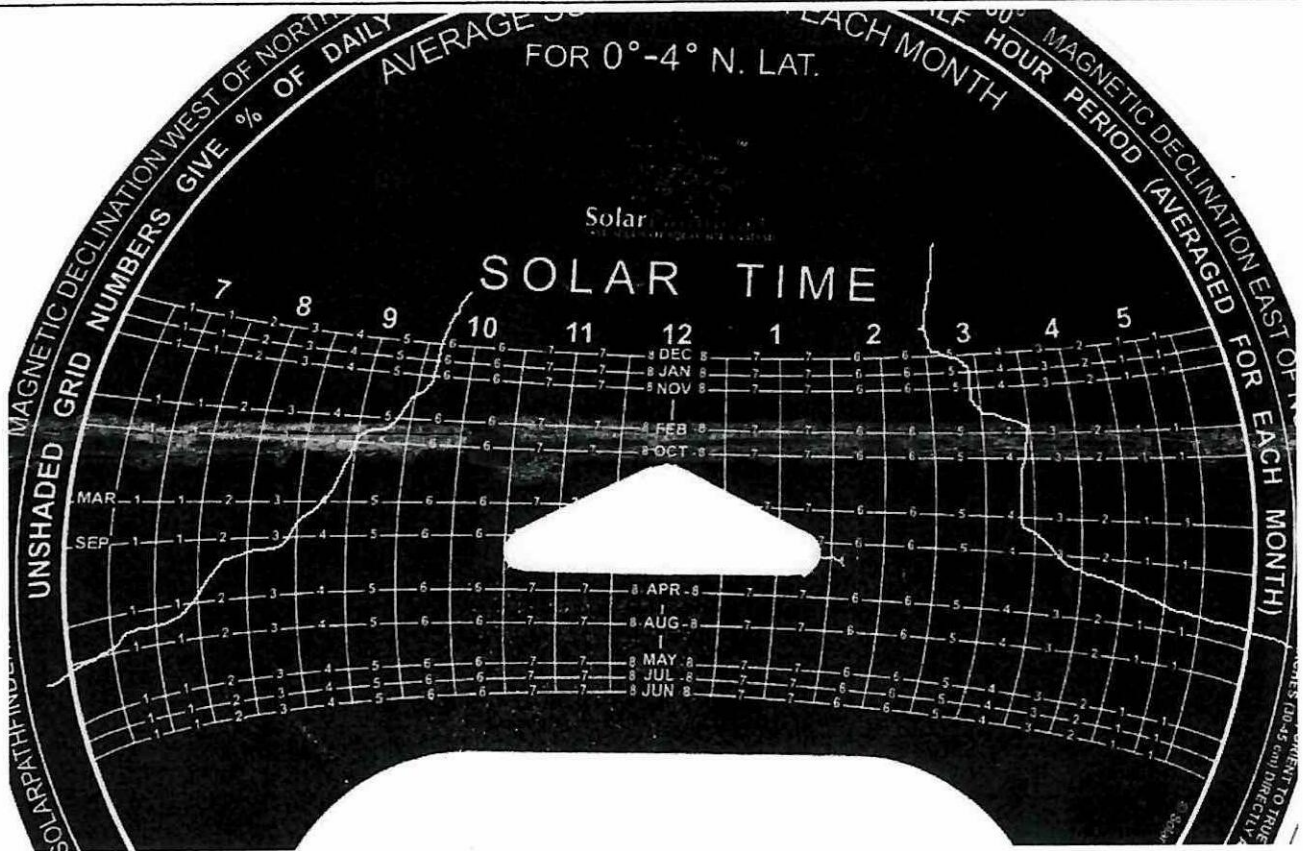

Figure Q2(b)
- (b) The shading profile for a site with latitude 7 deg N and longitude 103 deg E is shown on sun path chart in **Figure Q2(b)**. Using the monthly solar irradiation (H) data in **Table Q2(b)**, determine the following:
- (i) Monthly shading factor (SF) for the location. (3 marks)